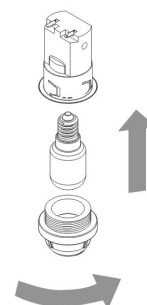

Fig. 4.1
- Remove the glass cover of the lamp-holder(Fig.4.1);